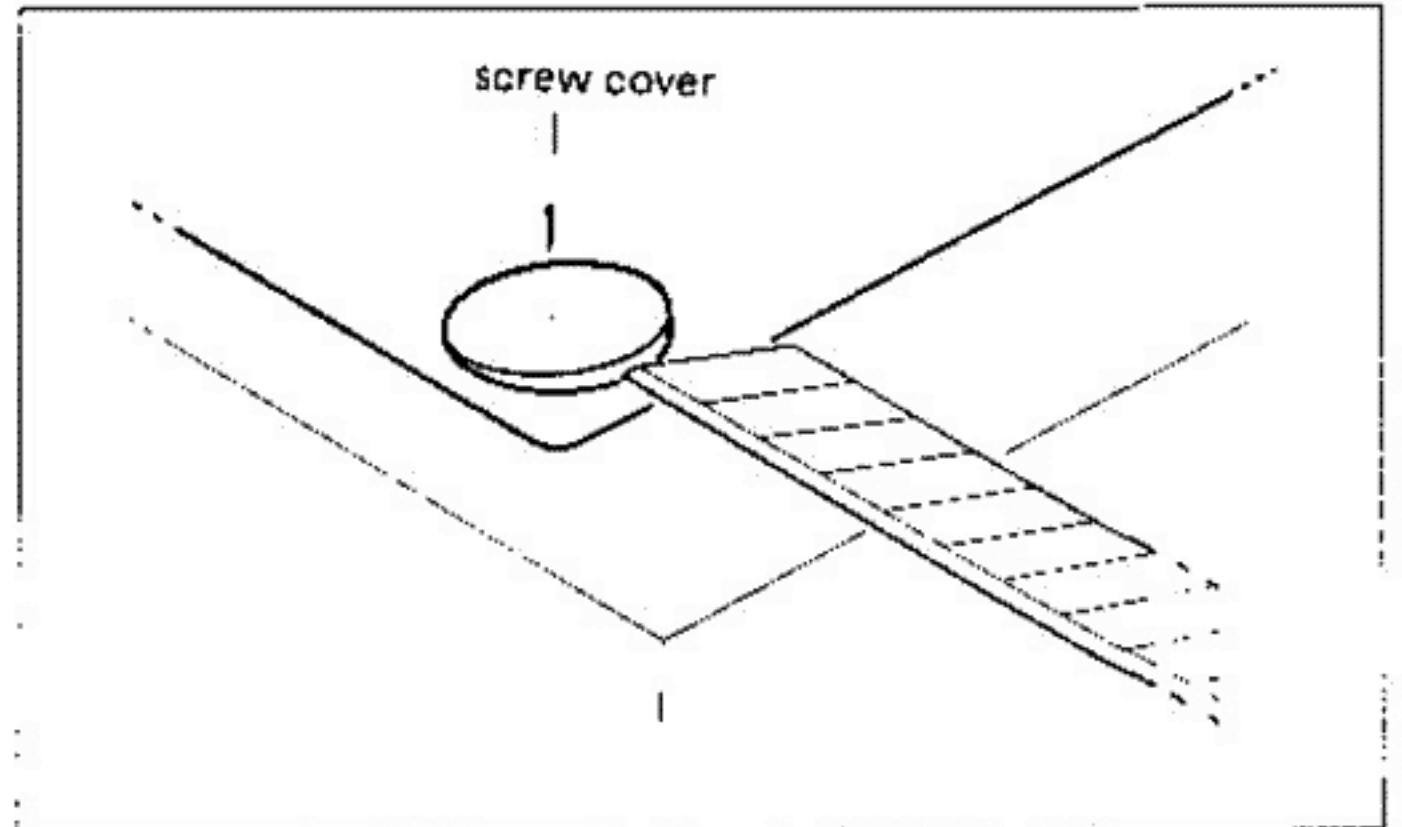

Fig. 4
b. Remove the screw cover by using a knife or the like as shown in Fig. 4.